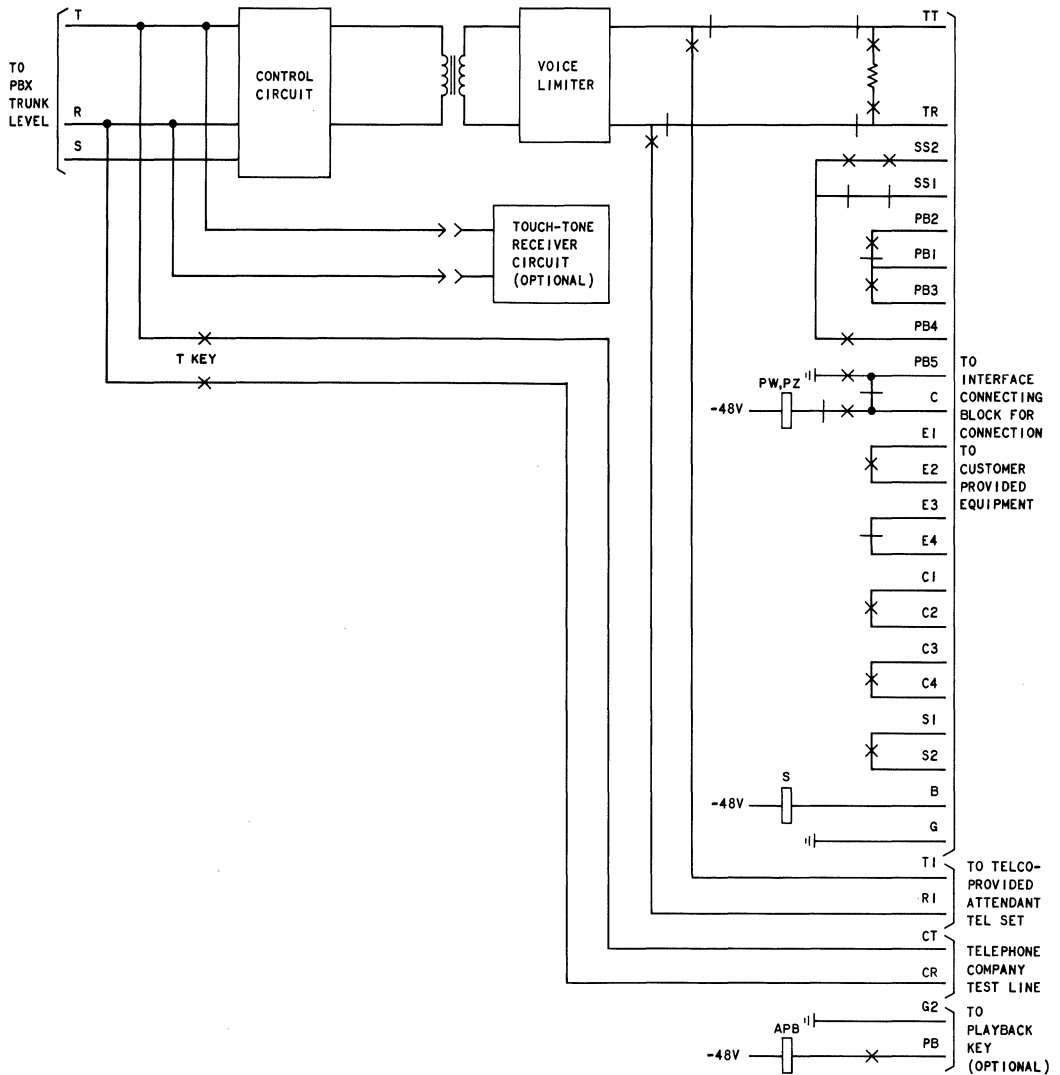

Fig. 6—Simplified Schematic—Voice Connecting Arrangement DCT
**4.01 Idle Condition:** When the CP dictation machine is available for use (idle condition), a closure is provided by the CP dictation machine across leads B and G to hold up a supervisory relay (S relay) in Voice Connecting Arrangement DCT which provides an indication toward the associated PBX that the circuit is available for use (Fig. 6). When there is trouble in the CP dictation machine (machine unable to record), leads B and G are
4.11 ***Idle Condition:*** When the CP dictation machine is available for use (idle condition), a closure is provided by the CP dictation machine across leads B and G to hold up a supervisory relay (S relay) in Voice Connecting Arrangement DCT, which provides an indication toward the associated PBX that the circuit is available for use (Fig. 6). When there is trouble in the CP dictation machine (machine unable to record), leads B and G are opened by the CP dictation machine and the circuit is made busy toward the PBX (Operational Feature G). In addition, if Operation Feature F is provided, this open causes the connecting arrangement to pass ringing to the CP dictation machine attendant telephone set.